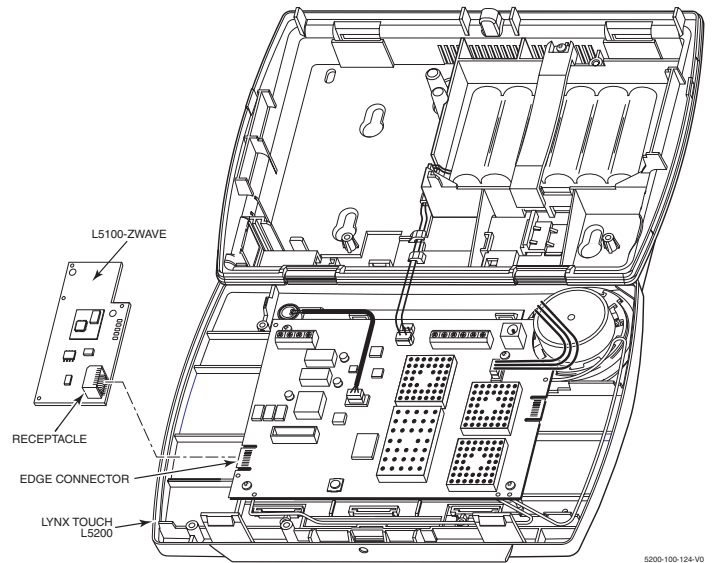

Figure 2. Installing the L5100-ZWAVE Communications Module (L5200 Shown)
2. Release the LYNX Touch front case from the back case by depressing the two locking tabs at the top of the unit with the blade of a medium size screwdriver. Refer to Figure 2.
3. Install the module component side up in the control panel as shown in Figure 2. Ensure that module's receptacle is securely seated on the control's edge connector.